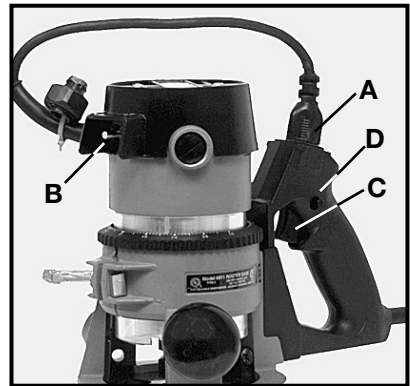

Fig. 8
When using the 691, which is equipped with a switch-in-handle (Fig. 8), check to see that the motor unit power cord (A) is plugged into the handle, and that the switch (B) on the motor is set to the ON position. The starting and stopping of the motor is then controlled by pressing and releasing the trigger switch (C) Fig. 8 in the handle of the base.
To allow the tool to run without continually pressing the trigger (C), Fig. 8, press the trigger (C) into the handle and engage the switch locking button (D) on the side of the handle. While holding the button in, slowly release the trigger. To stop the tool, squeeze trigger into handle and release.